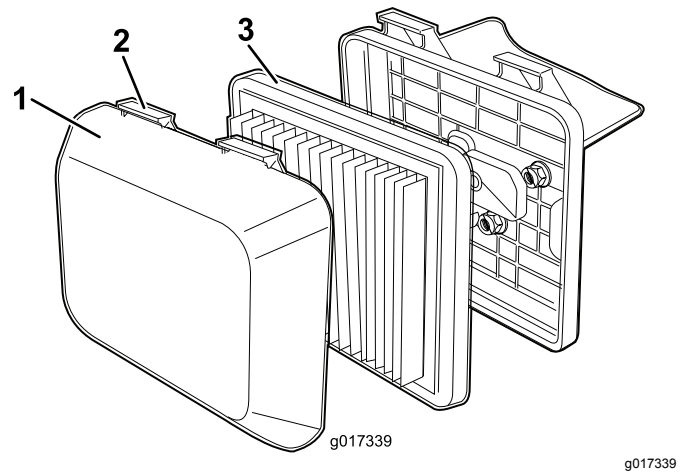

Figure 20
1. Press down on the latch tabs on top of the air cleaner cover (Figure 20).
3. Remove the filter (Figure 20).